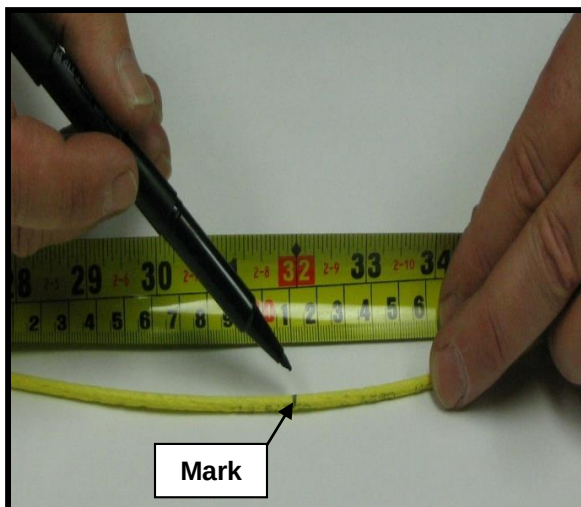

Figure 1
5.2 Use a felt tip pen to mark the Fiber Bundle outer jacket at the determined location for jacket removal. **See Fig. 1.**